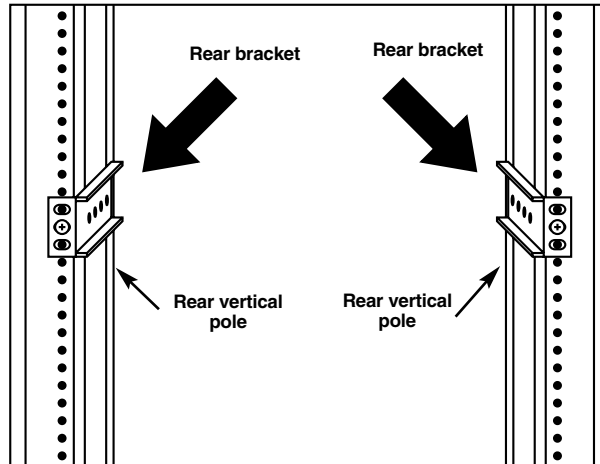

Figure 3-1. Attaching the rear brackets to the cabinet's rear vertical poles.
1. Choose a proper position in the cabinet for the rack drawer. Using 10-32 or 12-24 hardware (not included), mount the rear brackets (from the Rear Bracket Extension Kit, purchased separately) and lightly fasten them onto the rear vertical poles. (See Figure 3-1.) Both rear brackets will be removed later.